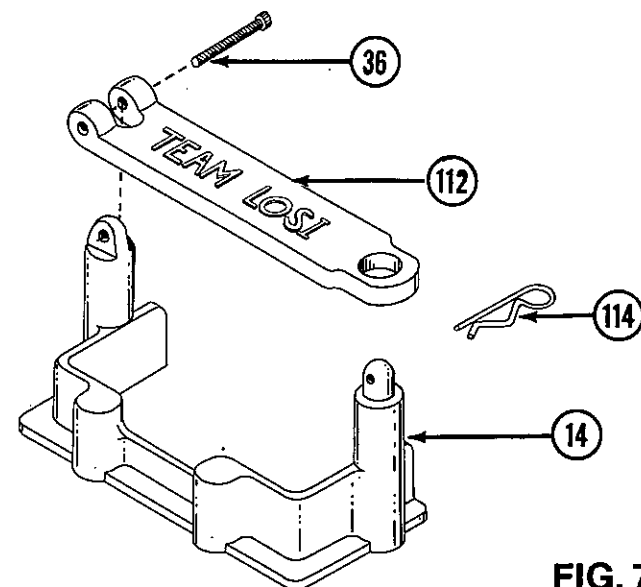

FIG. 7
10. Peel off backing from adhesive foam and apply to the indentation on the bottom side of the battery box lid (112). Fig. 7.
11. Align hinge pin holes in the battery box lid (112) with hinge pin hole in battery box (14). Fig. 7
* NOTE: The hinge pin hole is the larger of the two holes in the posts on the battery box (14). Fig. 7.
12. Thread 4-40 x 1/2" socket head screw (36) into chamfered end of battery box lid (112) through battery box (14) post and back into battery box lid (112). Fig. 7.
13. Secure lid (112) with body clip (114). Insert into the chamfered end of hole in battery box post (14). Fig. 7.